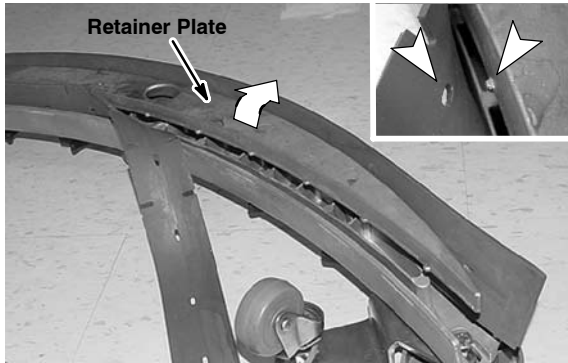

FIG. 54
- To replace the front blade, remove the rear band and fully loosen the four squeegee assembly knobs, do not remove the knobs. Lift and tilt the retainer plate to access the front blade (Figure 54). Rotate the front blade to a new wiping edge and return the retainer plate. Make sure the retainer plate tabs engage the blade slots. Reinstall the band then retighten the knobs.